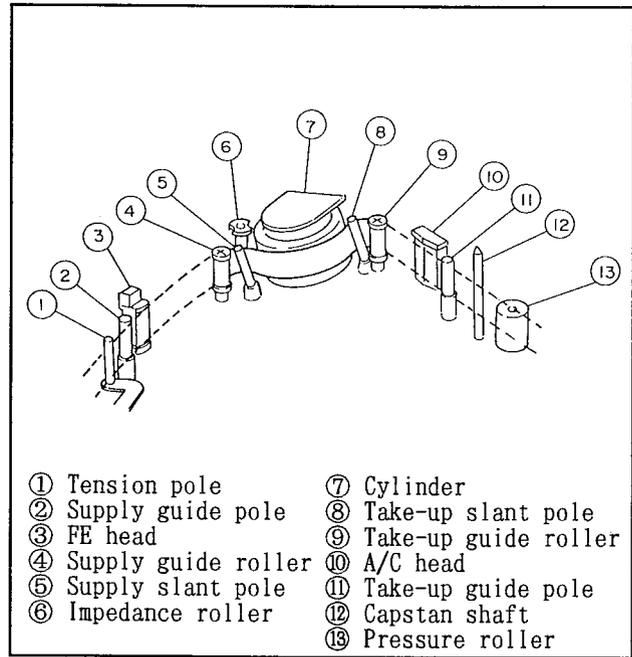

Fig. 3
- (2) Grease and oil for maintenance (Fig. 3)
- (3) Alcohol
- (4) Gauze
2) Cleaning the tape transport system (Fig. 3)